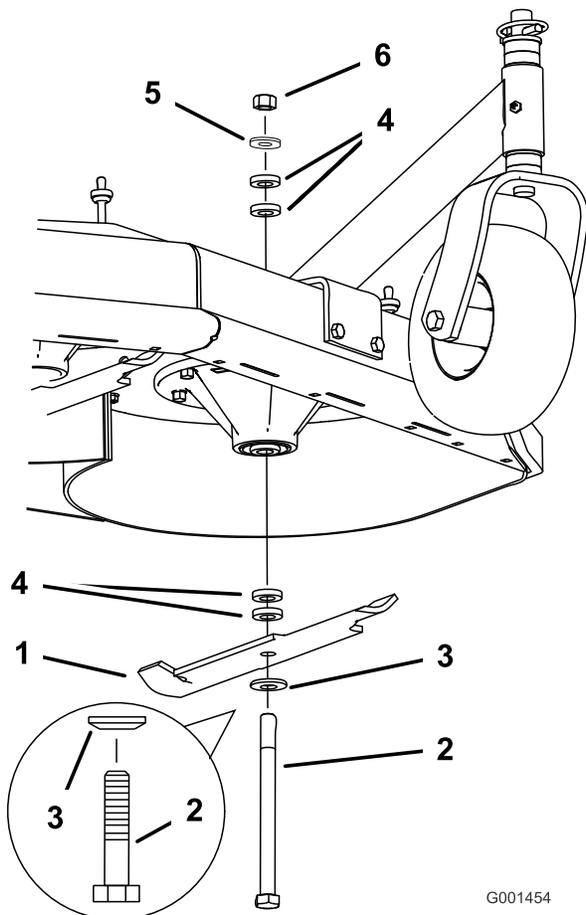

Figure 57
2. Remove the nut, blade bolt, curved washer, blade, spacers, and thin washer from the spindle (Figure 57).
1. Install the curved washer and then the blade onto the bolt. Select the proper number of spacer(s) for the height-of-cut, and slide the bolt into the spindle (Figure 57).
2. Install the remaining spacer(s) and secure them with a thin washer and a nut (Figure 57).